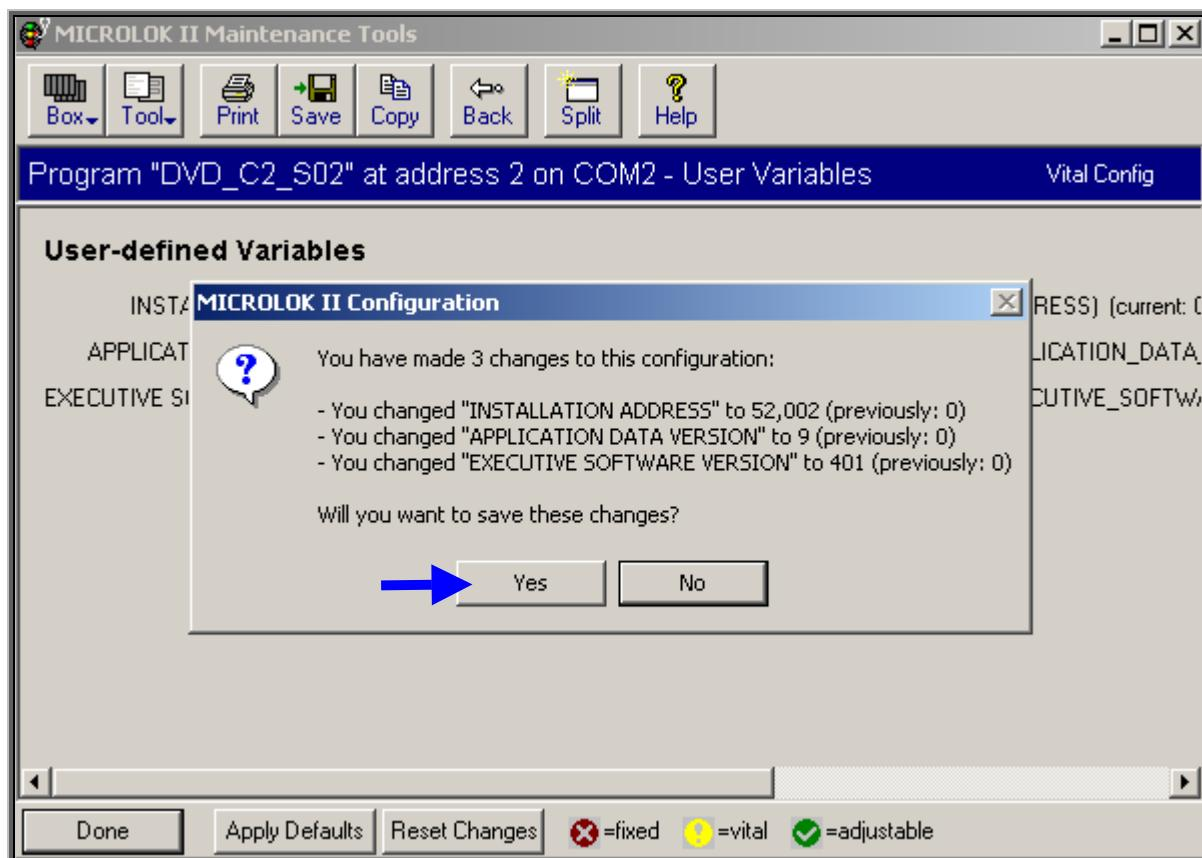

Figure-7.4.2.3
- ❖ This will present “**MICROLOK II Configuration**” dialogue box as shown in Figure-7.4.2.3.